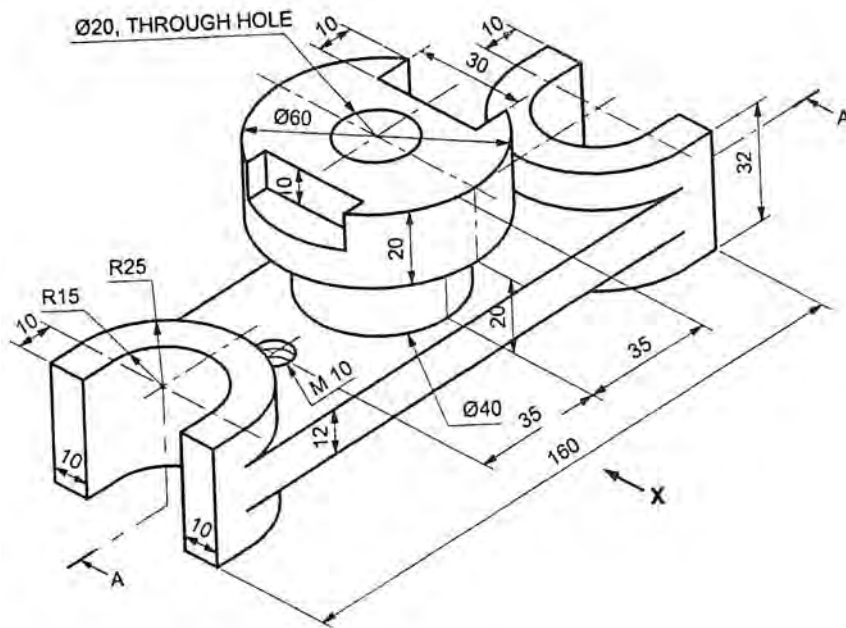

Fig. 2
4. Using first angle method of projection, draw following views for the object shown in Fig. 2